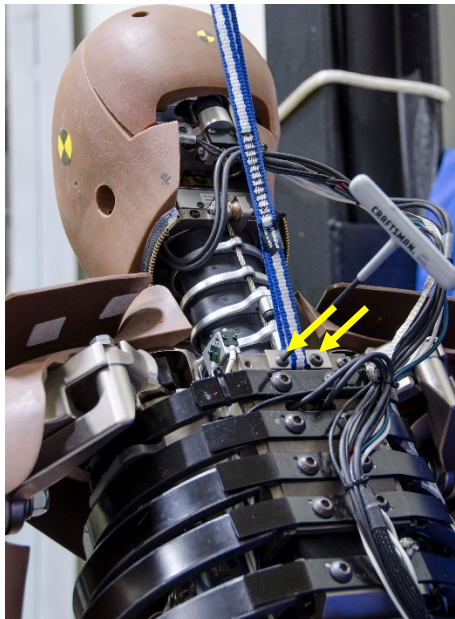

Figure 2-3. Install lifting strap bracket to upper thoracic spine box weldment
- 2.2.1.2 Install the two M5 x 0.8 x 10 BHCS through the lifting strap bracket into the Upper Thoracic Spine Box Weldment (472-3620) above the first rib (Figure 2-3).